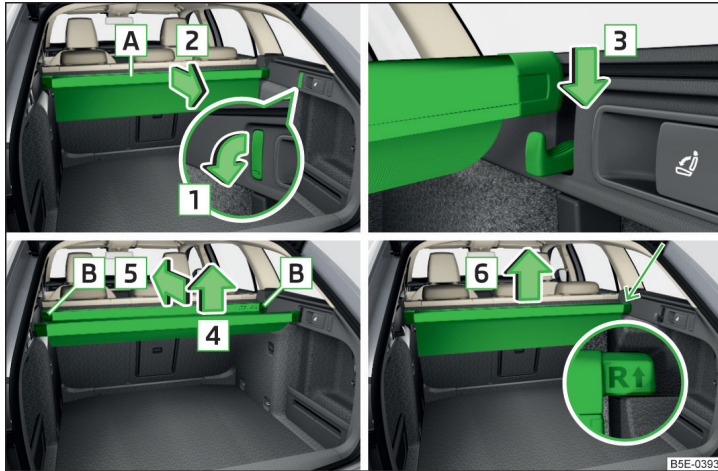

Fig. 142 Multi-function pocket: pulling out/inserting/pushing in/removing
- › Fold down the front hooks on both sides of the luggage compartment in the direction of arrow **1** » Fig. 142.
- › Remove the rear bar from the hooks in the direction of arrow **4** and push in the pocket in the direction of arrow **5** » Fig. 142.
- › Remove the pocket from the fittings in the direction of the arrow **6** » Fig. 142.